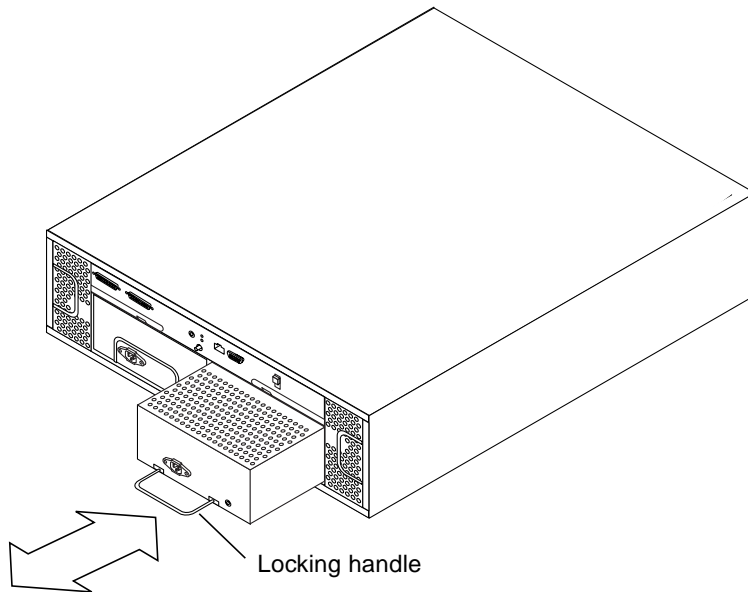

FIGURE 4-4 Removing and Replacing a Power Supply
- 3. Pull the locking handle down and slide the power supply out of the bay (FIGURE 4-4).**